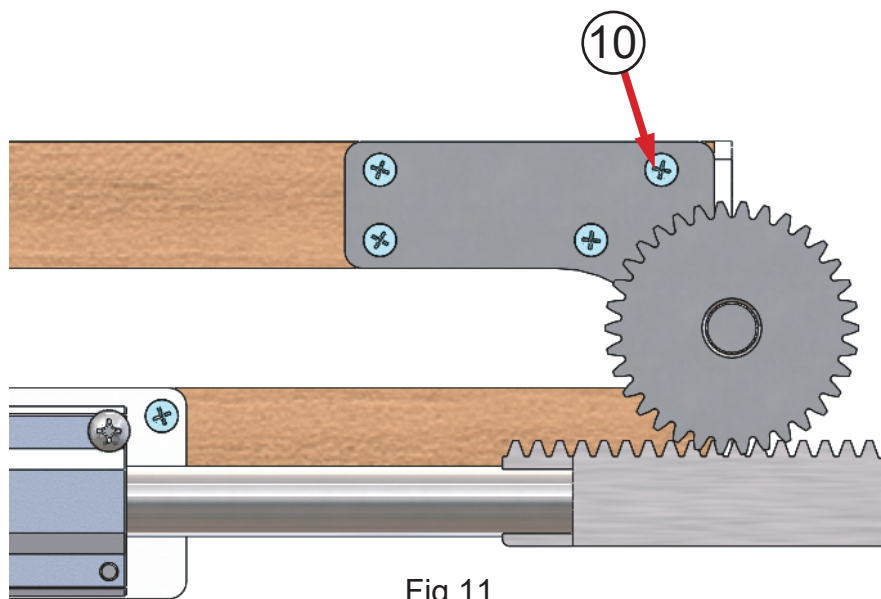

Fig 11
10. Tighten up screws ⑩ M4.8*32 for ④ gear connection rod as Fig 11.